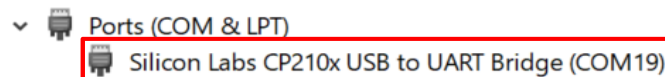

Figure 4: USB Port
Step 6: Select the correct “**COM Port**” (USB Port shown in **Figure 4** above) and set the correct “**Baudrate**”.
Step 7: Click “**Open Port**” to establish communication with the EVB. The NMEA sentences output by the LC79H (BA) module will be displayed in the receiving bar of the QCOM tool, as shown in the figure below.